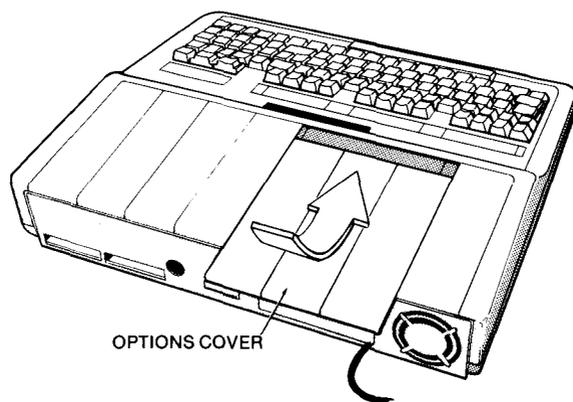

Figure 5.
8. Insert the cover on the top of the left side of the computer and slide it forward toward the front. See Figure 5.